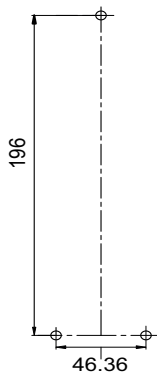

Fig 1
1. Fasten the AXIS T8123-E/T8124-E with three screws. See Fig 1 (screw holes are marked 1,2,3)